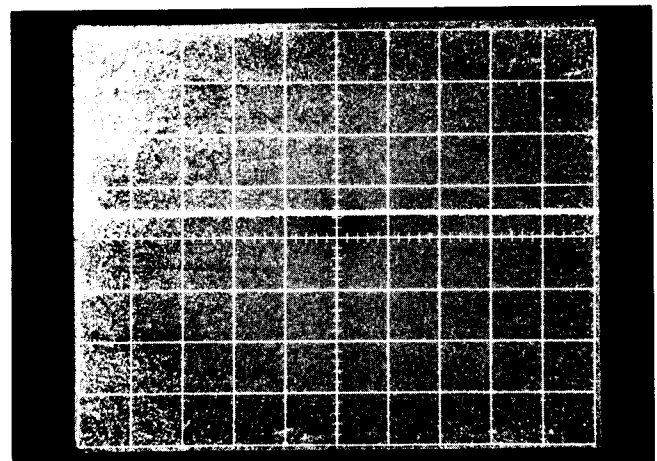

Fig. 5-8. Enhancement pulse amplitude adjustment, with WRITING RATE INCREASE control set to maximum.
g. Alternately store and erase single sweeps of the trace while adjusting R984 clockwise in small steps. Continue adjusting R984 until the single-sweep switching-sync pulses cause portions of the screens to start fading positive and the trace just begins to spread into the background. (See Fig. 5-8.)